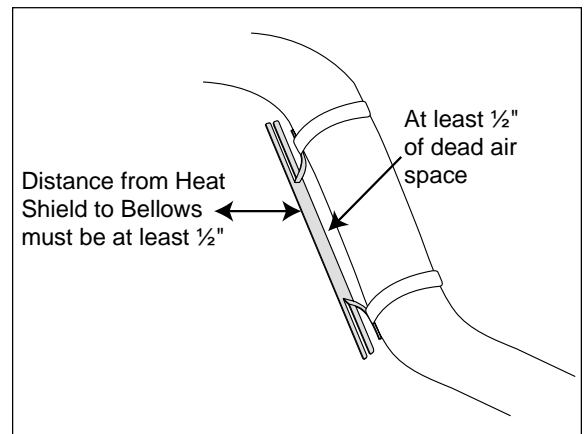

Figure 7
2. Attach the heat shield (S) to the exhaust pipe using the clamps (U) (Figure 7). Bend the heat shield for maximum clearance to the air spring.